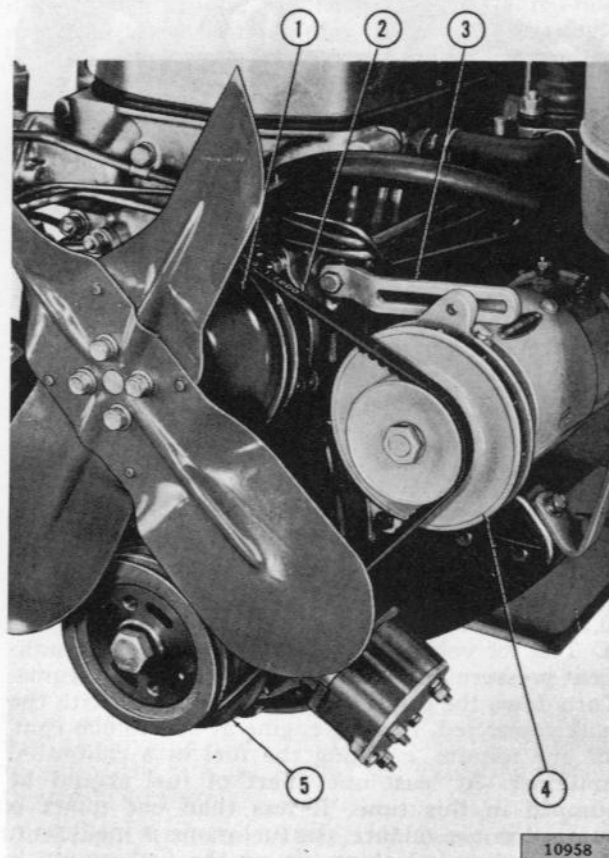

FIG. 70—BELT ADJUSTMENT
Adjust the fan belt tension by loosening the clamp bolt on the generator brace (3, Fig. 70) and swinging the generator (4) away from the engine until proper belt tension is obtained. Then tighten the clamp bolt.